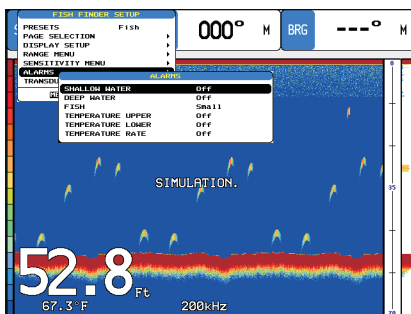

Figure 4.5 - Alarms sub-menu
- Reconnect the cables to the PCB (see the Fig. 4.5 for reference).